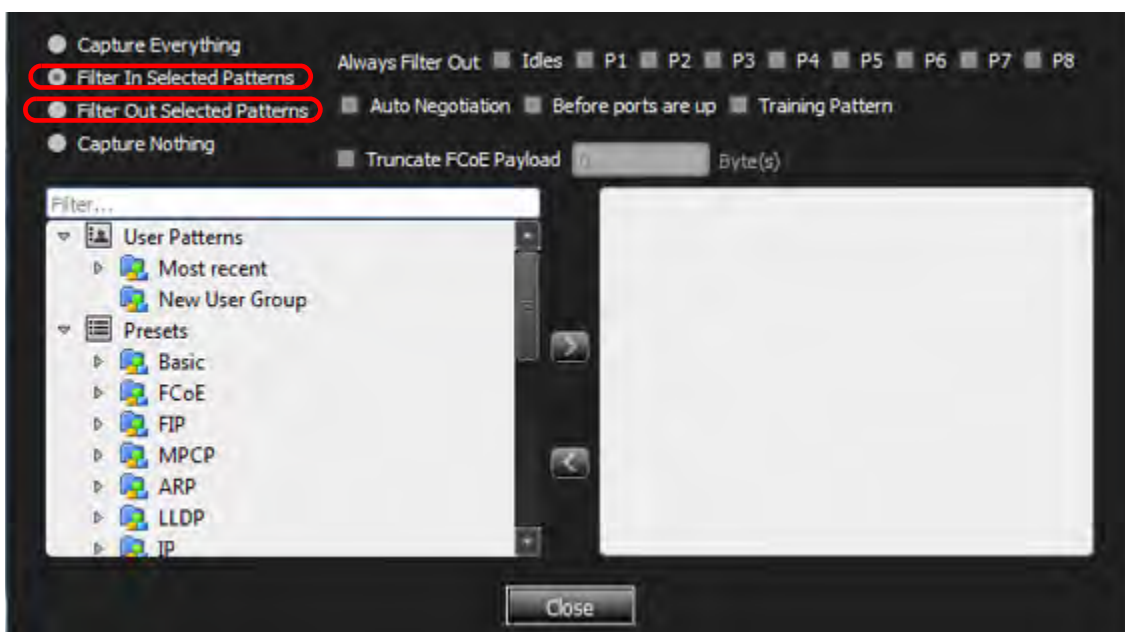

Figure 4.141: Filter In Selected Patterns or Filter Out Selected Patterns
- ❑ Select Filter In Selected Patterns or Filter Out Selected Patterns to select patterns for inclusion or exclusion (Figure 4.141). See 4.102, *Trigger and Filter Preset Patterns (RDMA and NVMe)*.